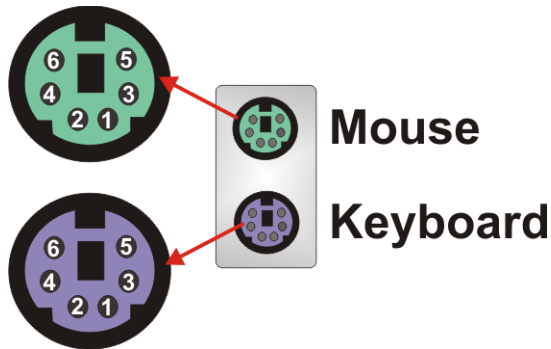

Figure 4-20: PS/2 Pinouts
- CN Pinouts:** See Figure 4-20 and Table 4-19